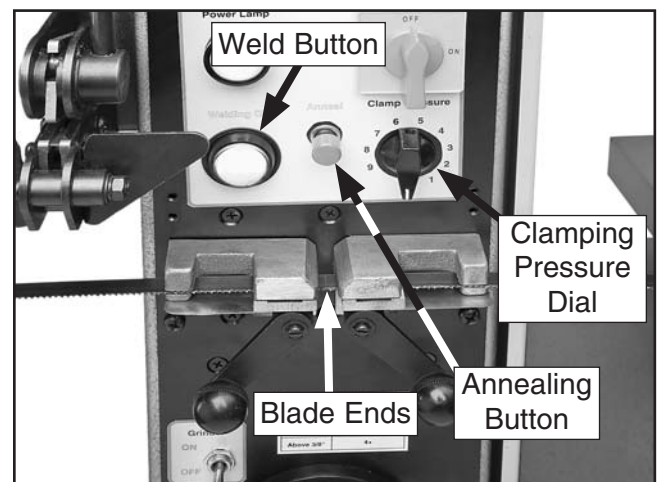

Figure 46. Blade ends in correct position for welding.
5. Set the clamping pressure dial (see **Figure 46**) to "0".
6. Place the other blade end in the opposite welding clamp and position it so that the end evenly butts up against the opposing blade end, then lock it in place by rotating that lock lever all the way up, as shown in **Figure 46**.